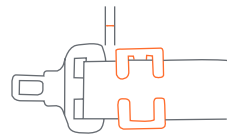

Fig. 42-3
- Secure the shoulder belt to the lap belt by installing the locking clip 1/2 inch from the buckle as shown in (Fig. 42-3).